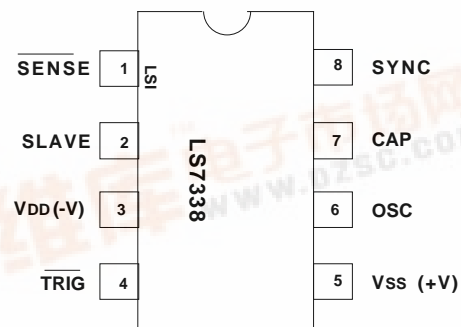

FIGURE 1
- LS7338 (DIP); LS7338-S (SOIC) - See Figure 1